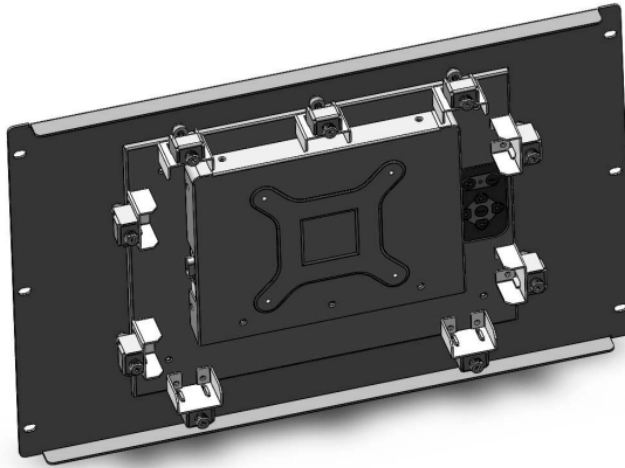

Figure 3-24: Secure the Rack/Cabinet Bracket
Step 3: Tighten the screws that pass through the rack mounting clamps until the plastic caps at the front of all the screws are firmly secured to the bracket (**Figure 3-24**).